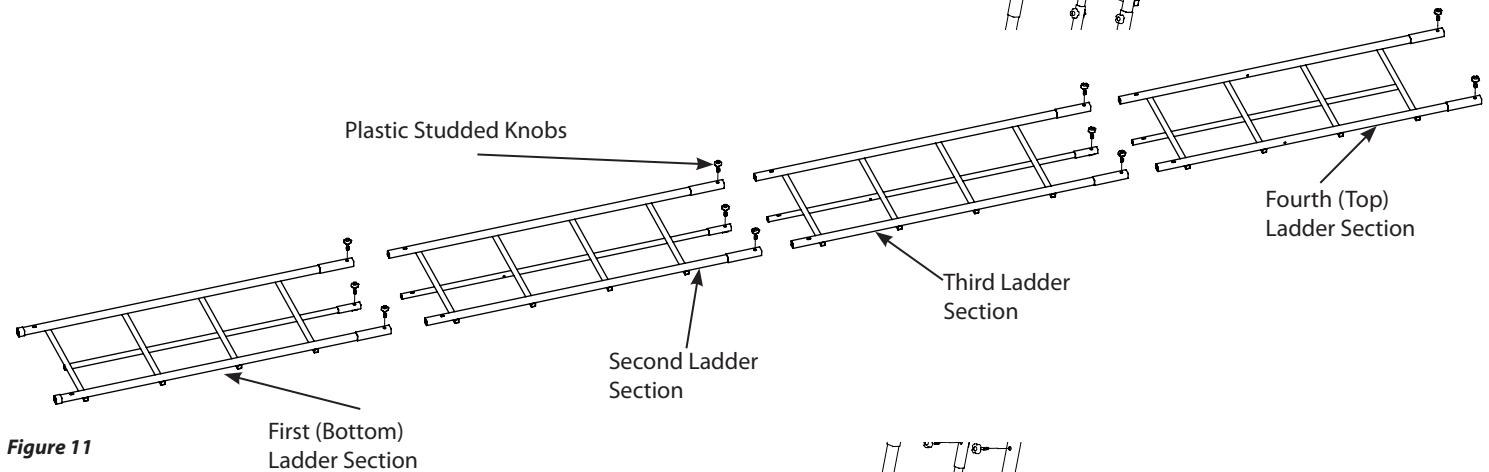

Figure 11
12. Sections are assembled on the ground in the following order: bottom section (14238); second section (14235); third section (14235); fourth section (14167); top section (assembled top platform section). **SEE FINISHED PLATINUM LINE ART AND FIGURE 11.**